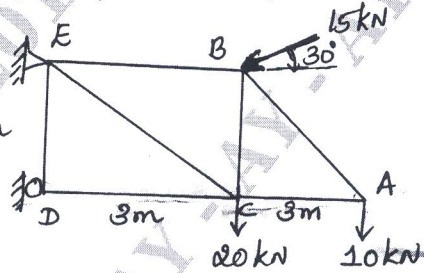

Fig Q1(b)
b. Analyze the truss shown in Fig Q1(b) by "method of joint" Indicate the force on truss.